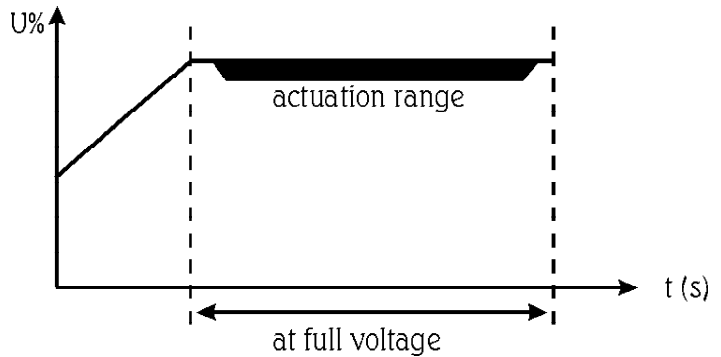

Figure 6.6 - Energy save
- 1 - Function "Operation", the relay is switched ON instantaneously with the order Switch ON of the Soft-Starter, switching Off only when the Soft-Starter receives an order of general switching Off, or by ramp when the voltage reaches 30% of the rated voltage, as shown in Figure 6.6.